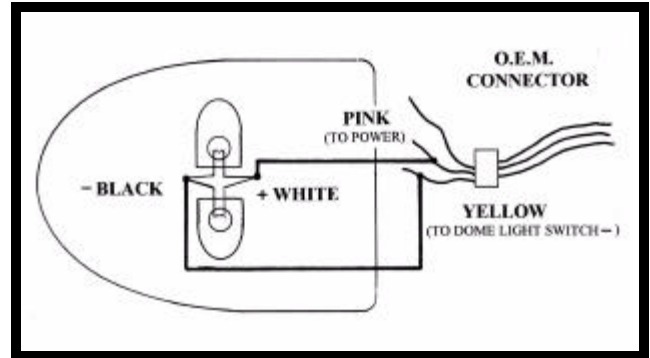

FIGURE 6
- Using the diagram in Figure 6, construct a jumper harness that will connect the vehicle's dome light wire harness to the new dome lights in video system. Make sure that lights in video system operate from the door jamb switch.